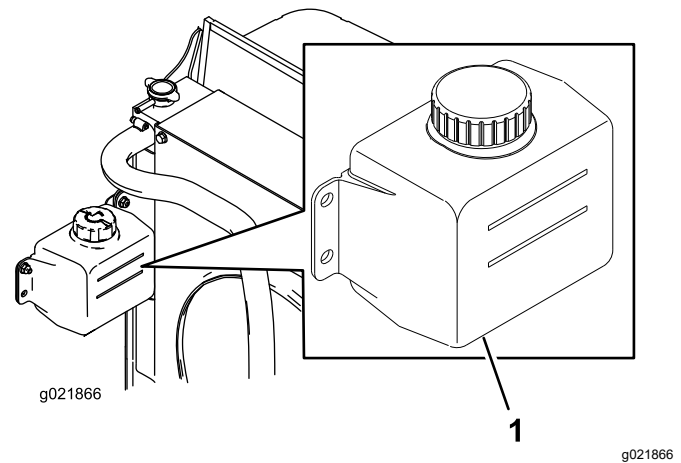

Figure 85
1. Check the level of coolant in the expansion tank (Figure 85).